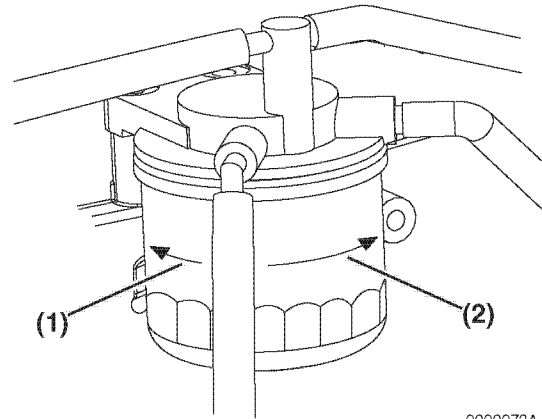

Figure 16
3. Remove the fuel filter using a filter wrench to turn it to the left (**Figure 16, (1)**). When removing the fuel filter, carefully hold it to prevent the fuel from spilling. Wipe up all spilled fuel.
5. Install the new fuel filter. Hand-tighten it to the right (**Figure 16, (2)**) until it comes in contact with the mounting surface. Use a filter wrench and tighten to 14-17 ft-lb (19.6-23.5 N•m, 2.0-2.4 kgf/m) or one additional turn using the filter wrench.